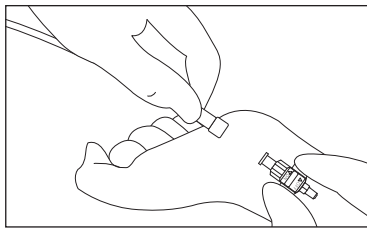

Figure 10
11. Connect the pressure line or monitoring kit as required (see Figure 10).